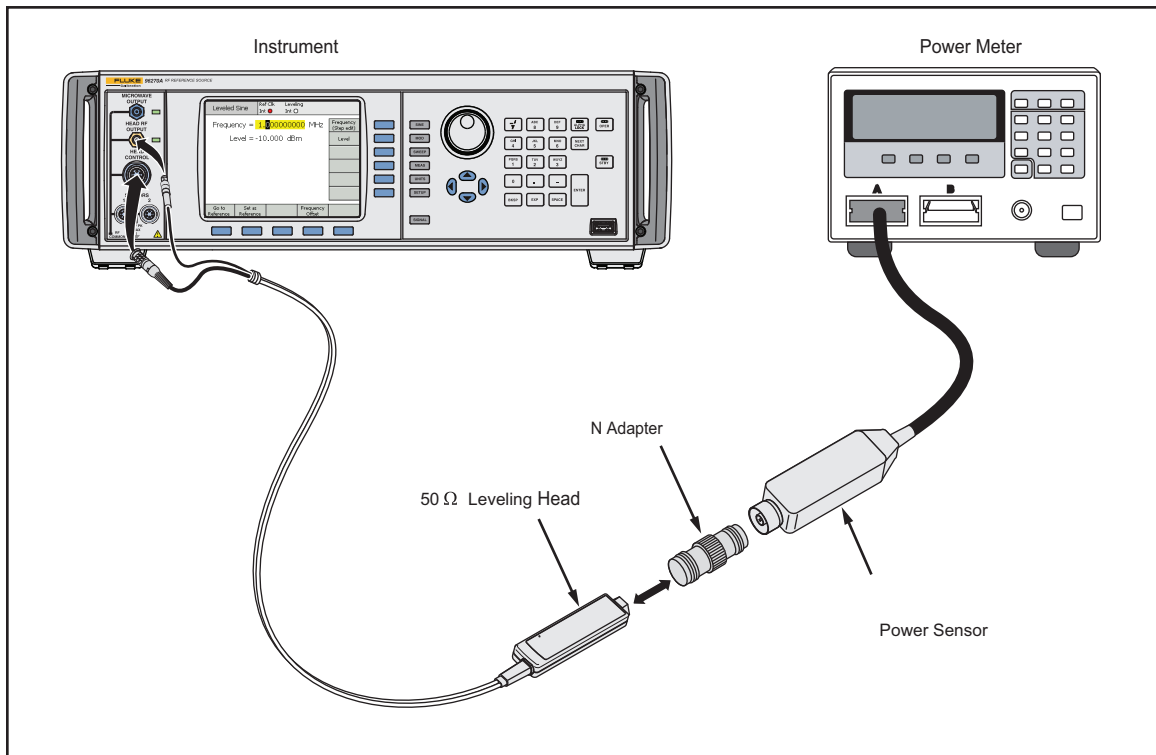

Figure 3-6. Equipment Connections - 50 Ω Leveling Head, High Frequency Level Accuracy Test Points (96040A and 96720A)
8. Connect the 50 Ω Leveling Head to the 50 Ω thermal Power Sensor via a precision 50 Ω Type-N female-to-female adapter. See Figure 3-6 for equipment connections.
18. Connect the 50 Ω Leveling Head to the 50 Ω diode Power Sensor via a precision 50 Ω Type-N female-to-female adapter. See Figure 3-6 for equipment connections.